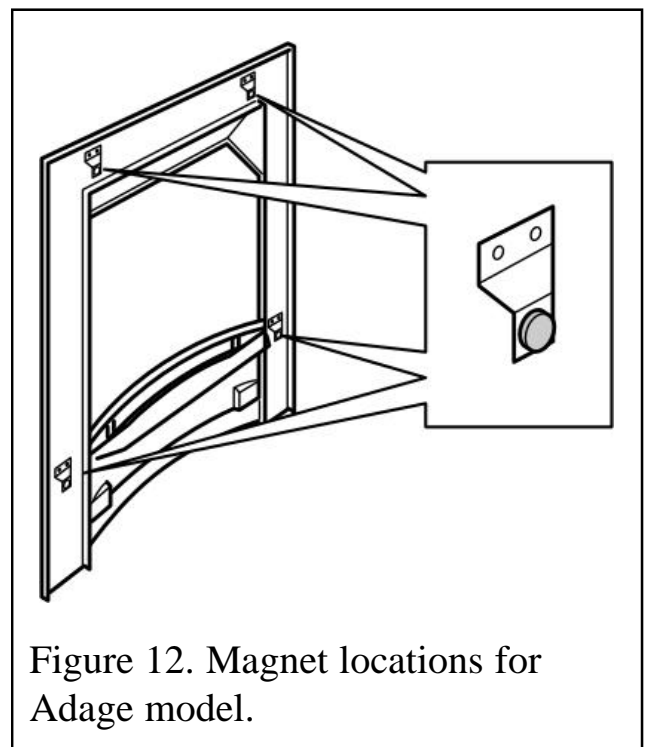

Figure 12. Magnet locations for Adage model.
1. Removing the fascia may have moved the magnets used to fix the fascia to the heater. There should be a magnet on each of the four raised tabs on the rear of the fascia (See figure 12).